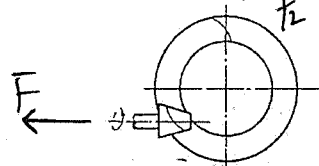

Fig. 5 Hypoid Gear Drive
1. Please describe the offset type (偏移类型) of the hypoid gear (双曲面齿轮) of the final drive (主减速器) in Figure 5, the helix angle direction (旋向) of the driving gear (主动齿轮) and the driven gear (从动齿轮), and the direction of the axial force (轴向力) acting on the driving gear. (4 marks)